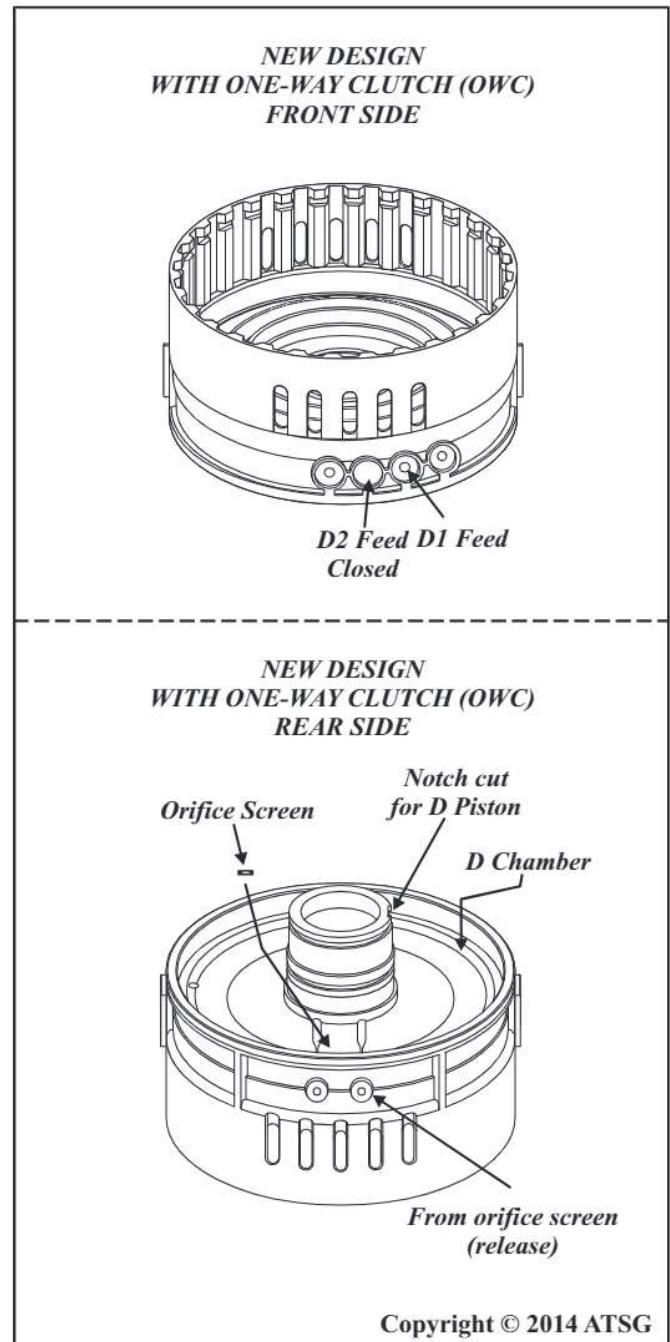
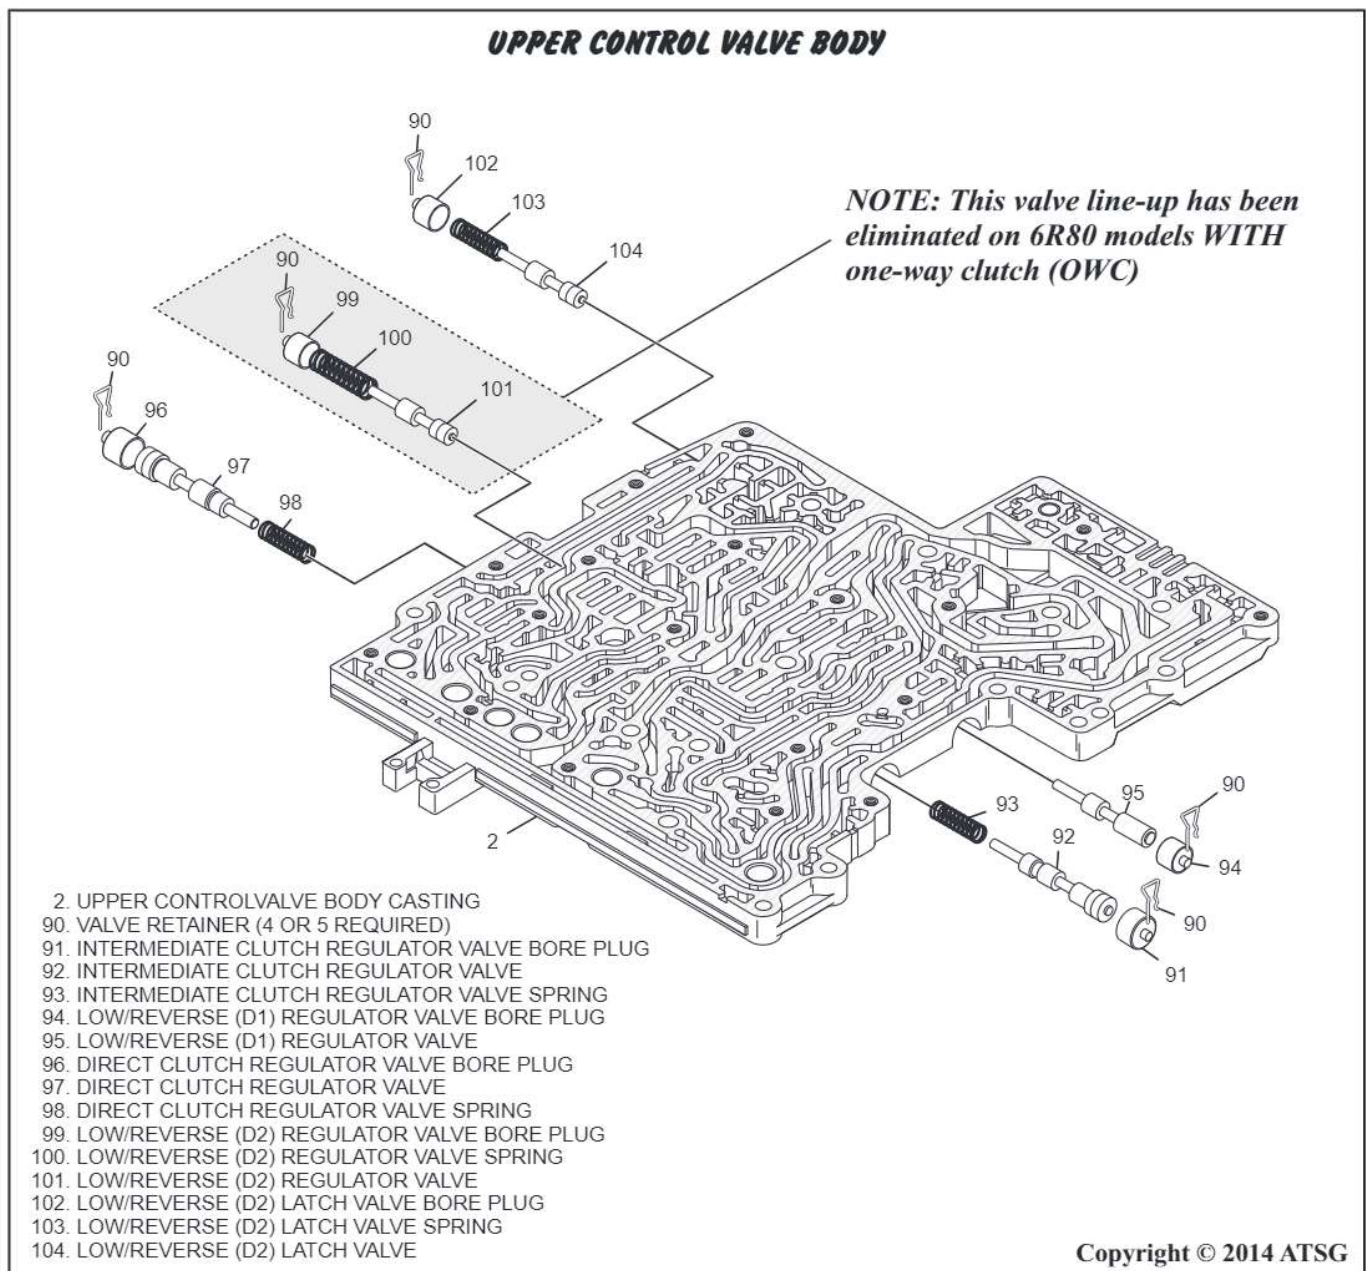

Figure 116
Figure 125
21. Disassemble the upper control valve body as shown in Figure 125.
22. Carefully remove each retainer, bore plug, valve and spring and place them into appropriate trays, laying them out in the exact order in which they are removed, using Figure 125 as a guide.
25. Install each spring, valve, bore plug and retainer in the lower control valve body in the exact order as shown in Figure 125.
NOTE: 6R80 MODEL UNITS WITH ONE-WAY CLUTCH(OWC) have eliminated the low/reverse (D2) regulator valve line-up. The bore is left empty. See shaded area of diagram in Figure 125. The (D2) passage in the intermediate and low/reverse was eliminated, (reference diagram in Figure 116) therefore the (D2) regulator valve is unnecessary and was also eliminated.